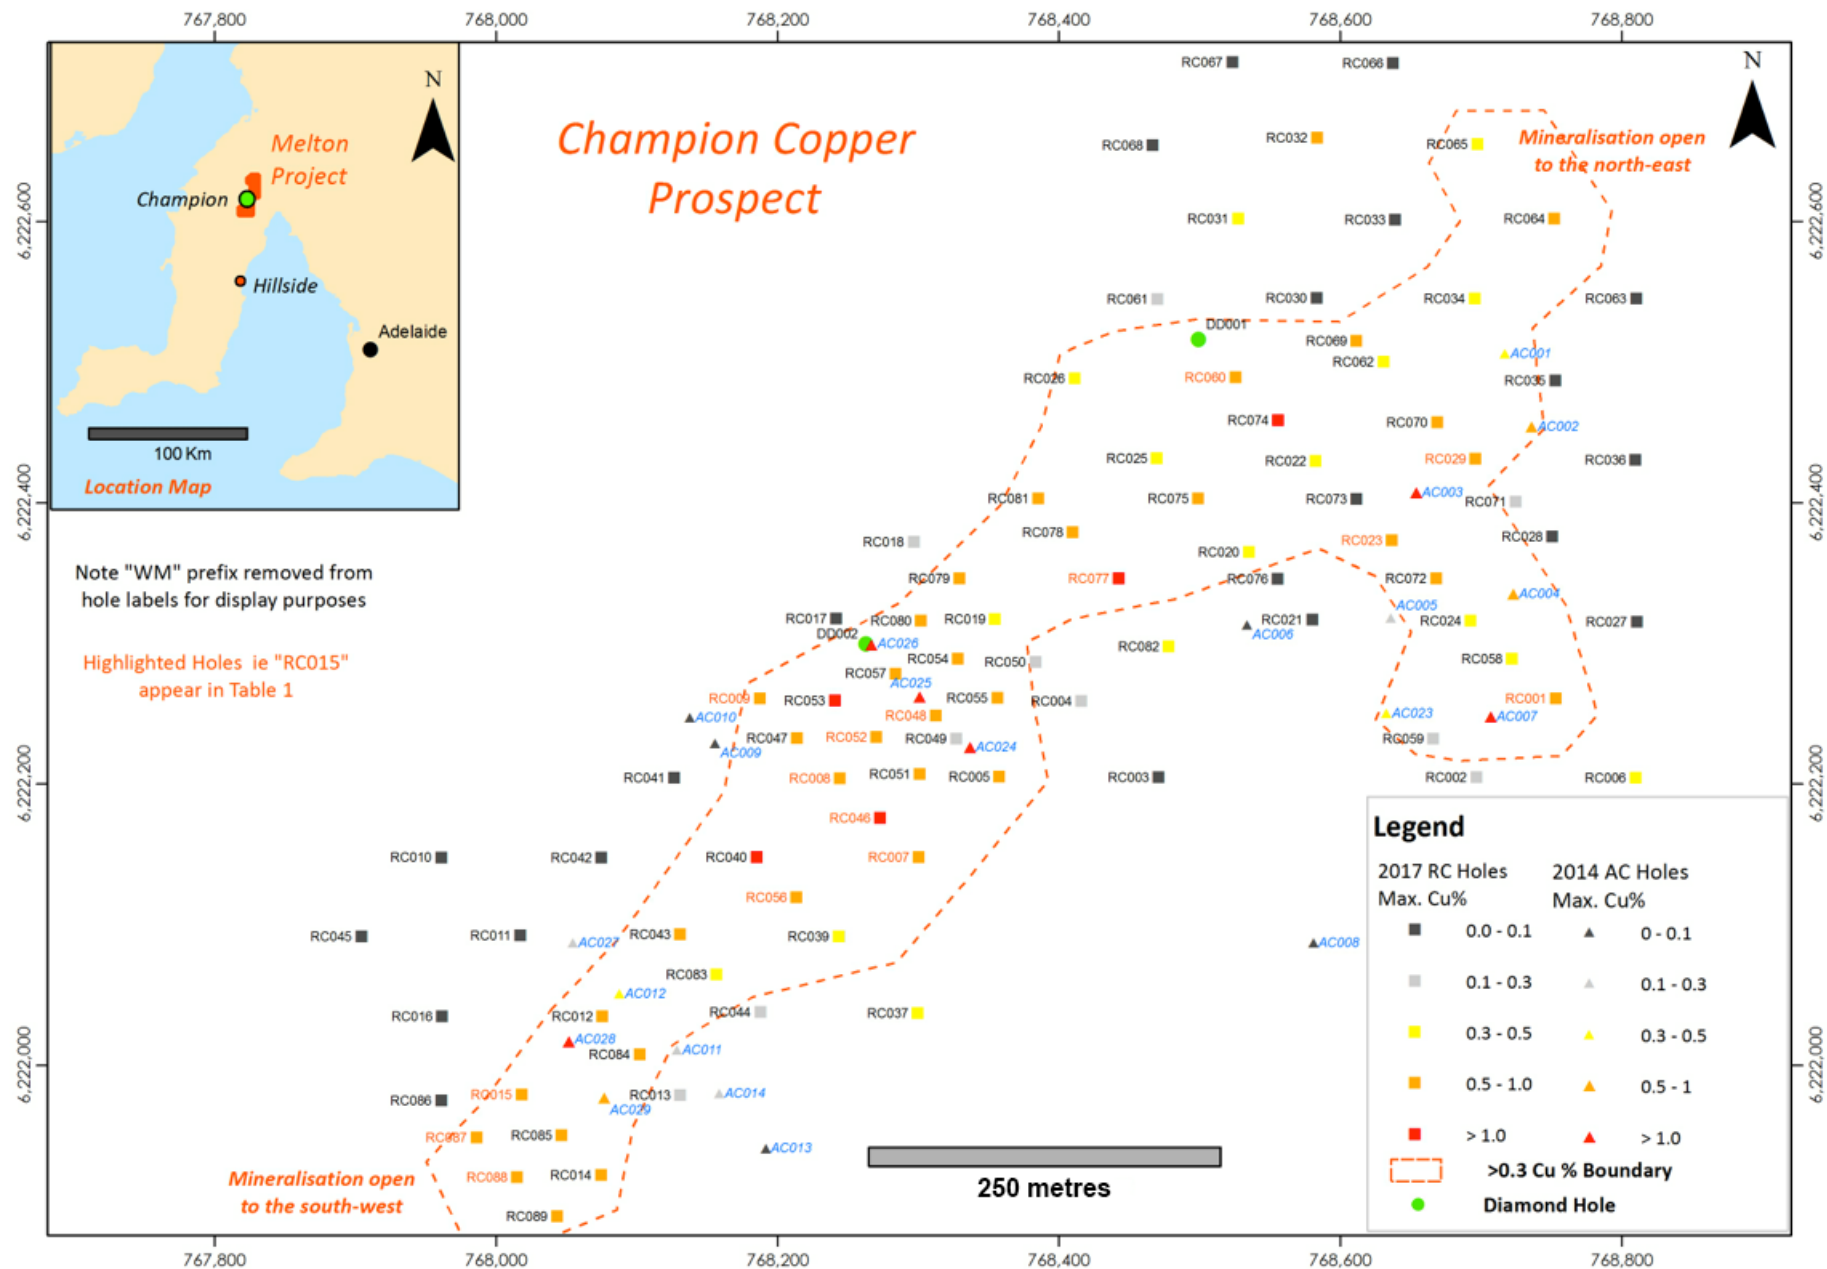

Figure 1: Champion: Maximum downhole Cu% intercepts for 2017 RC and 2014 AC Drilling
Marmota advises that the March – April drilling program at its 100% owned Champion Copper Prospect has returned multiple Cu intersections greater than 0.3% Cu, extending Cu mineralisation over 1km along strike and up to 300m wide [see Fig. 1]. Assay results have been received for the 89 RC holes drilled at Champion in this programme.
- Champion Copper (EL 5832) is situated on the Yorke Peninsula in South Australia approximately 50km north of Rex Minerals Ltd Hillside copper-gold deposit see [Fig. 1]